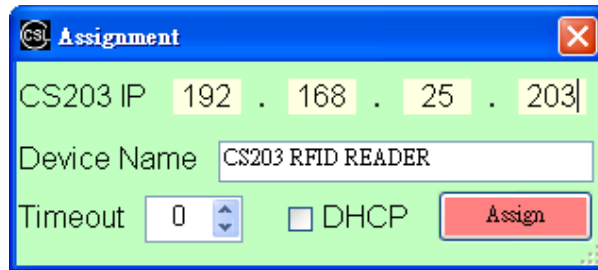

Fig. 5-6. Assign IP
2. Available CS203 devices will be listed as shown in Fig. 5-6.